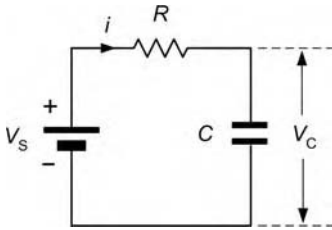
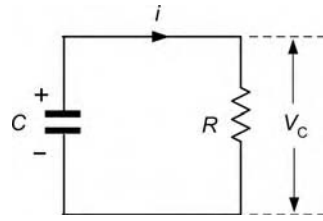
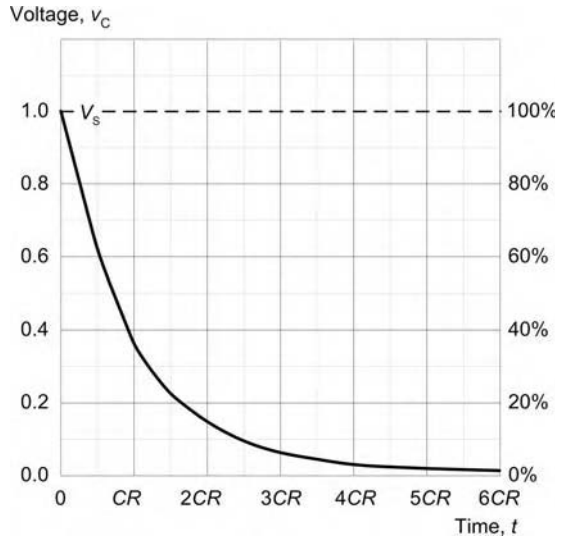
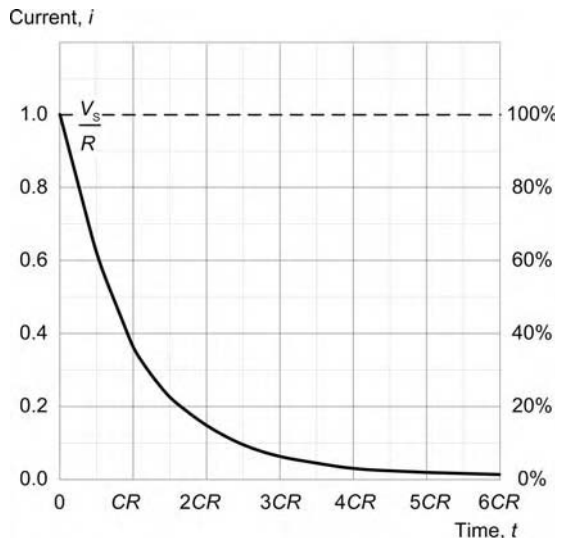

Figure 5.87 C–R circuit with C charging through R.
Figure 5.90 C - R circuit with C discharging through R .
Figure 5.91 Exponential decay of capacitor voltage (v_C) in Figure 5.90.
Figure 5.92 Exponential decay of current (i) in Figure 5.90.
When the *C-R* network is connected to a constant voltage source (V_S), as shown in Figure 5.87, the voltage (v_C) across the (initially
A charged capacitor contains a reservoir of energy stored in the form of an electric field. When the fully charged capacitor from Figure 5.87 is connected as shown in Figure 5.90, the capacitor will discharge through the resistor, and the capacitor voltage (v_C) will fall exponentially with time, as shown in Figure 5.91. The current in the circuit (i) will also fall, as shown in Figure 5.92. The rate of discharge (i.e. the rate of decay of voltage with time) will once again be governed by the time constant of the circuit (CR).